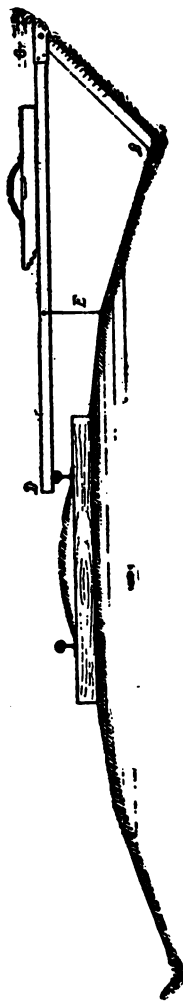

FIG. 6.—SECTION OF ROADBED SHOWING THE DITCHING RULE IN POSITION.
18. A simple device like that shown in Fig. 6, is very handy for Foremen to use when ditching. It can be made as follows: Use for the long piece a straight edge 1x4 inches, twelve feet long. For the